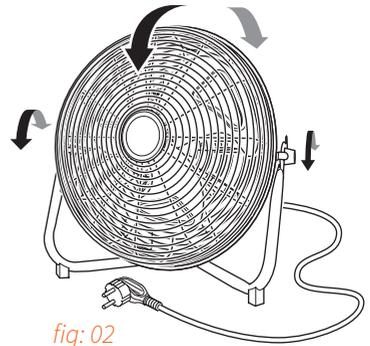

fig: 02
2. Point the front of the fan in the direction which you wish to ventilate. You can also adjust the fan to obtain a slightly downward, horizontal, or slightly upward flow of air, tilt the fan housing to the required angle. (fig: 02)